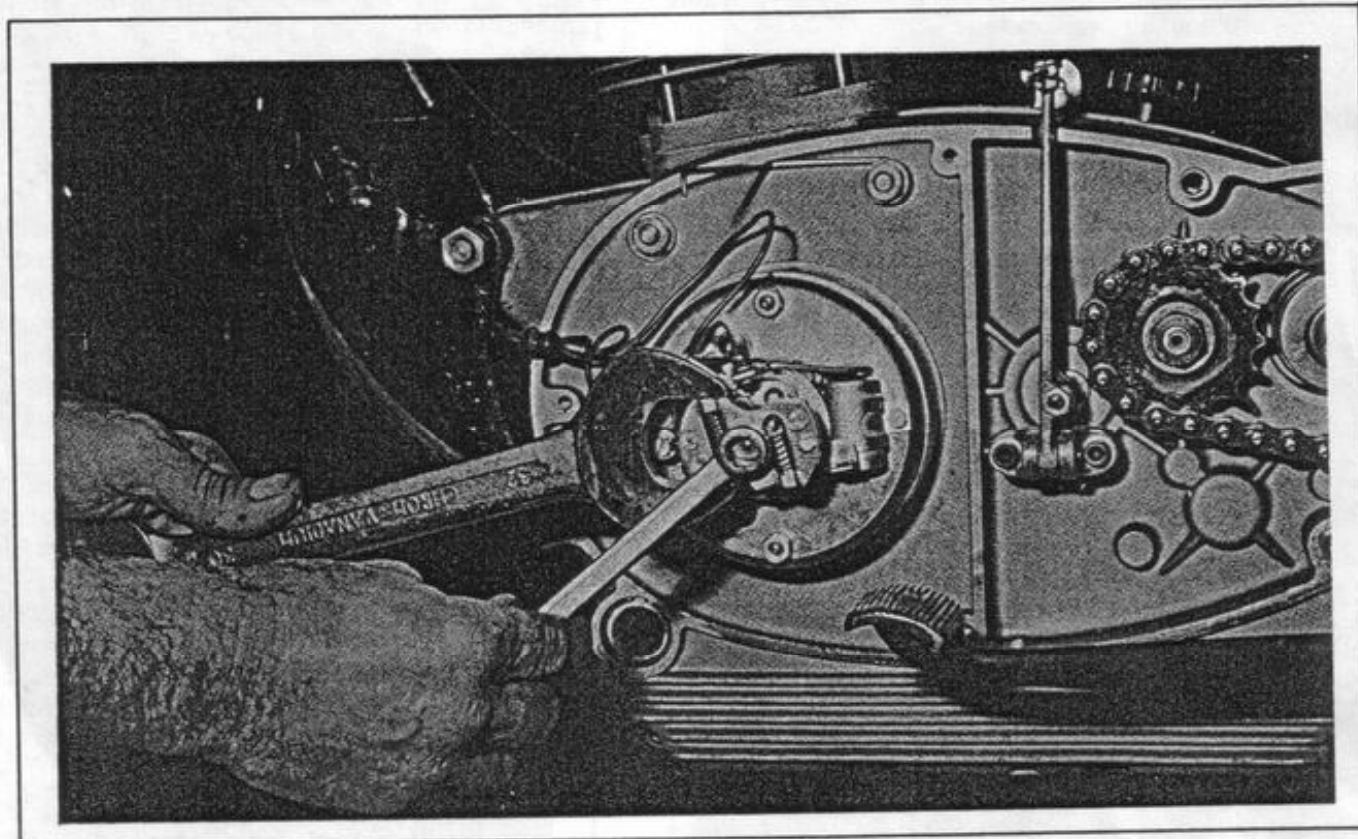

Figure 36.
3. Straighten the tab on the "retaining plate for generator fixing bolt", reference number 80 in exploded view T.1., and remove the (11 mm.) generator "fixing" bolt, reference 81. Keep the automatic spark advance from turning by putting a wrench over the flat sides of it as shown in Figure 36.